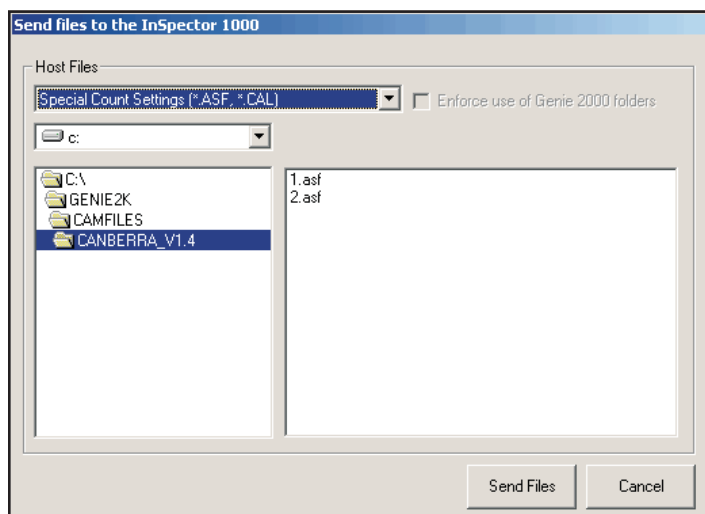

Figure 90 The Send Files List for Special Count Settings
2. From the "Host Files" drop-down list, select Special Count Settings (ASF, CAL). See Figure 90.